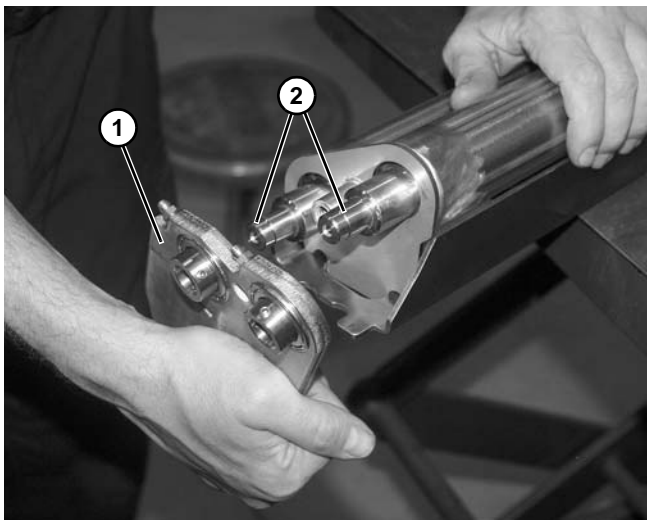

Figure 163
8. Remove side plate with bearings (Figure 163, item 1) off of both spindles (Figure 163, item 2).